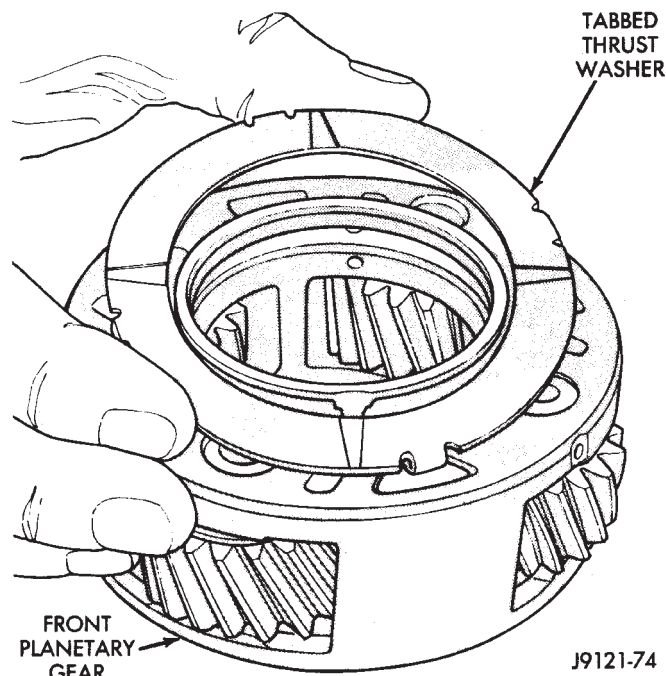

Fig. 85 Installing Thrust Washer On Front Planetary Gear—46RH
(10) Install tabbed thrust washer on front planetary gear (Fig. 85). Seat washer tabs in matching slots in face of gear carrier. Use extra petroleum jelly to hold washer in place if desired.